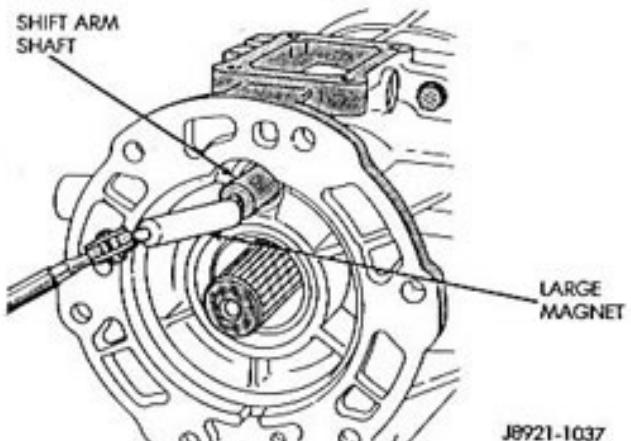

Fig. 7 Removing/Installing Shift Lever Shaft
- (8) Remove the shift arm shaft with a large magnet (Fig. 7).